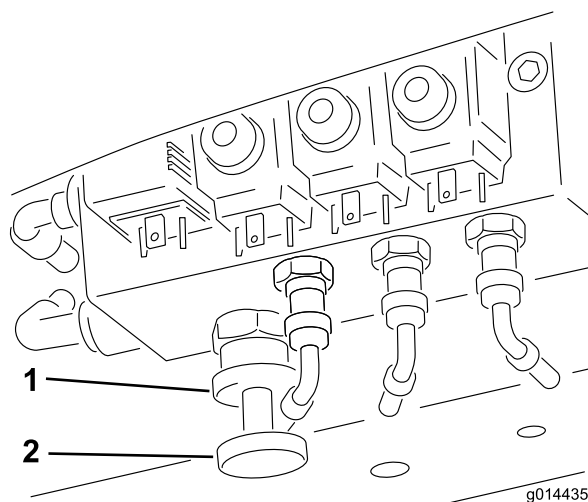

Figure 32
To engage weight transfer: The amount of weight transfer can be varied to suit operating conditions by rotating the weight transfer hand wheel (Figure 32) as follows:
1. Release the valve lock nut 1/2 turn counterclockwise and hold (Figure 32).
2. Rotate the valve hand wheel (Figure 32) counterclockwise to reduce weight transfer or clockwise to increase weight transfer.